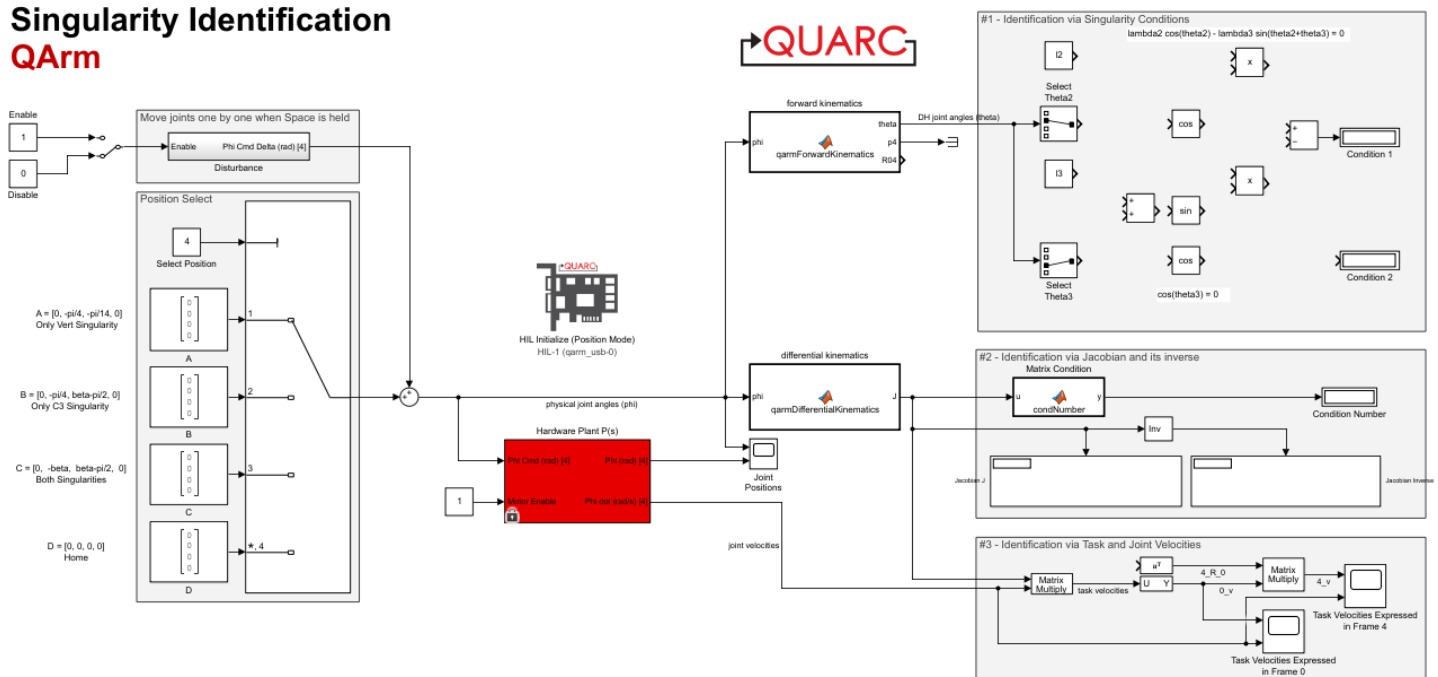

Figure 1 – Simulink model to explore the singularities of the QArm
1. Open the Simulink model SingularityIdentification.slx (Figure 1).